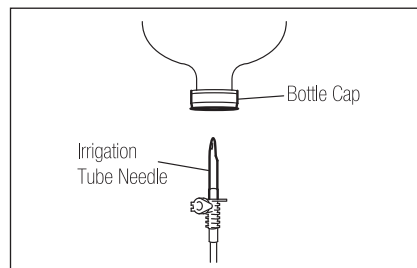

Fig. 13
2) Insert the Irrigation Tube Needle into the Bottle Cap. (Fig.13)